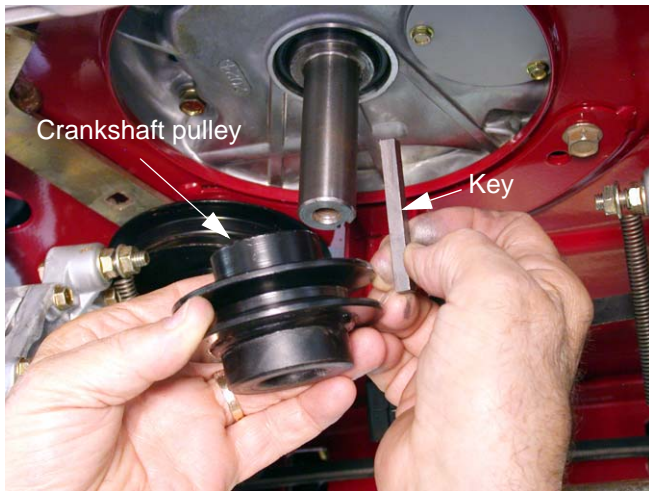

Figure 8.5
- 8.5. Remove the crankshaft pulley. See Figure 8.5.